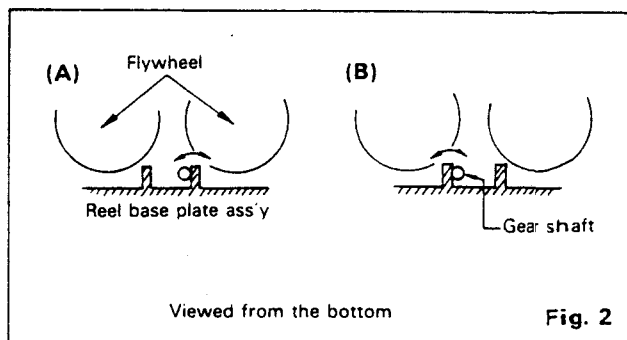

Fig. 2
First identify the gear causing the abnormal sound. Then, adjust projection of the reel base plate ass'y by bending it in an appropriate direction as shown in Fig. 2; (A) when the FF gear causes abnormal sound; (B) when the REW gear causes abnormal sound.